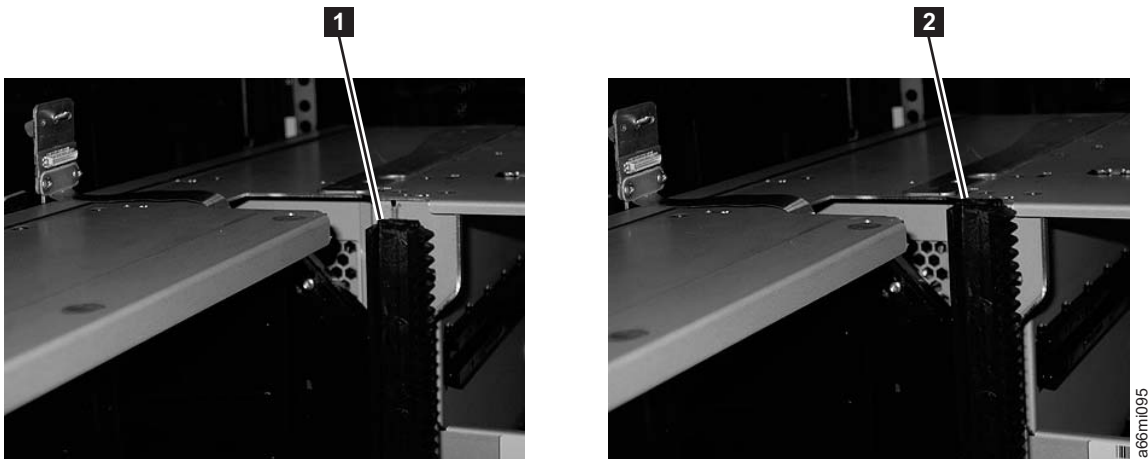

Figure 12-8. Gear racks (down and up)
1. Ensure that the front and rear gear racks are in the upper position (see **2** in Figure 12-8).